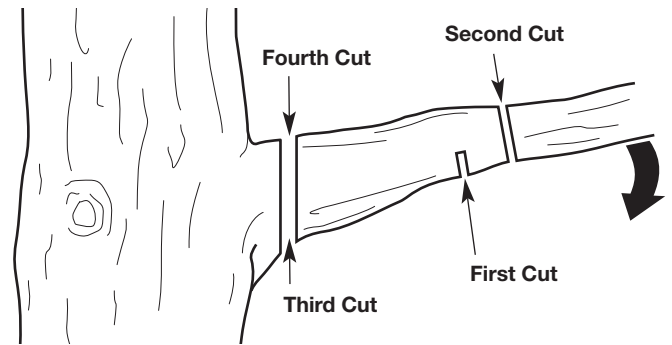

Fig. 22
1. Make the first cut approximately 6 inches (15 cm) from the tree trunk. Cut upward, from the underside of the limb. Use the top of the guide bar to make this cut. Cut a third of the way through the diameter of the limb (Fig. 22).
2. Make the second cut 2 - 4 inches (5 - 10 cm) farther out on the limb. Cut downward, from the top of the limb. Use the bottom of the guide bar to make this cut. Cut completely through the limb (Fig. 22).
3. Make the third cut as close to the tree trunk as possible. Cut upward, from the underside of the limb stub. Use the top of the guide bar to make this cut. Cut a third of the way through the diameter of the limb (Fig. 22).
4. Make the fourth cut directly above the third cut. Cut downward, from the top of the limb stub. Use the bottom of the guide bar to make this cut. Cut completely through the limb stub to meet the third cut (Fig. 22). This will remove the limb stub.